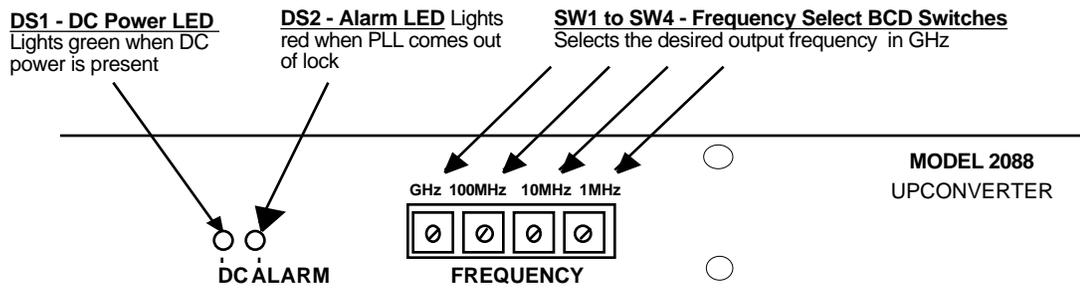

FIGURE 2.2 2088-24 Front Panel Controls and Indicators
- 4.) Set BCD switches SW1 to SW4 to the desired output frequency (Figure 2.2).
- 5.) Be sure DS1 (green, DC Power) is on and DS2 (red, Alarm) is off (Figure 2.2).